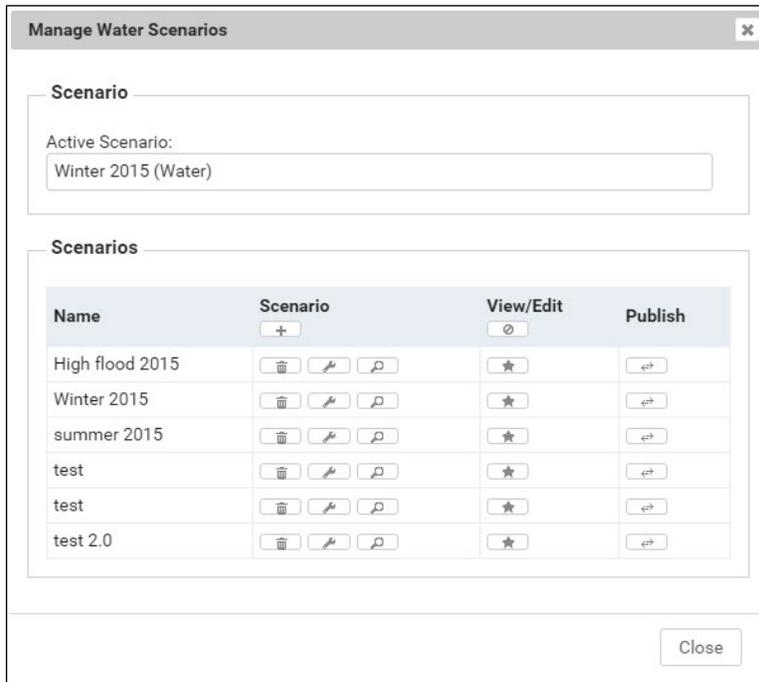

Figure 11-1 1. Publish
1. Navigate to the Scenario menu. Refer to Figure 11-1.